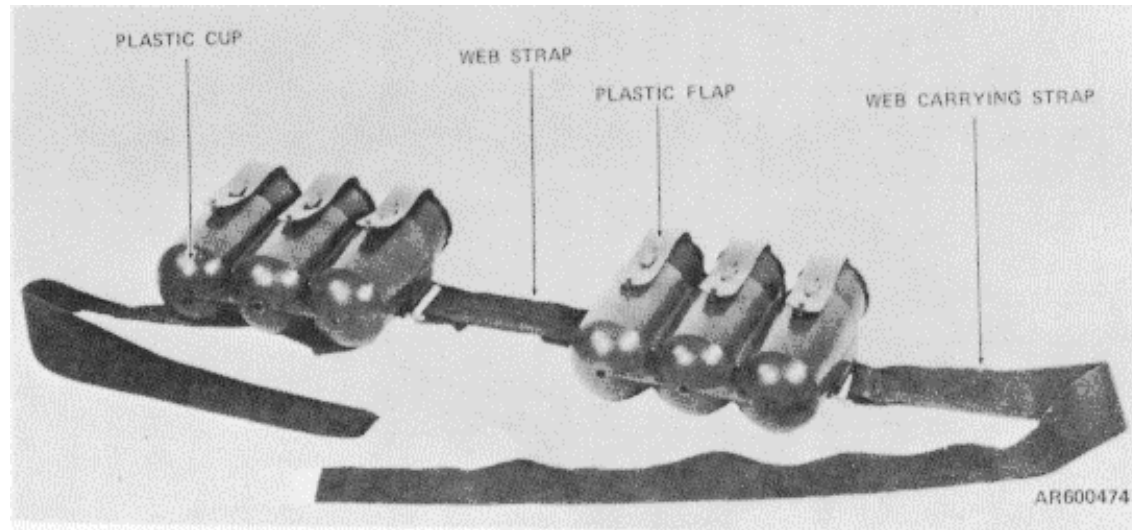

Figure 1-2. Bandolier.
b. Packaging. Six cartridges are packed in a bandolier. The bandolier (fig. 1-2) consists of six molded cups with flaps and a web carrying strap.